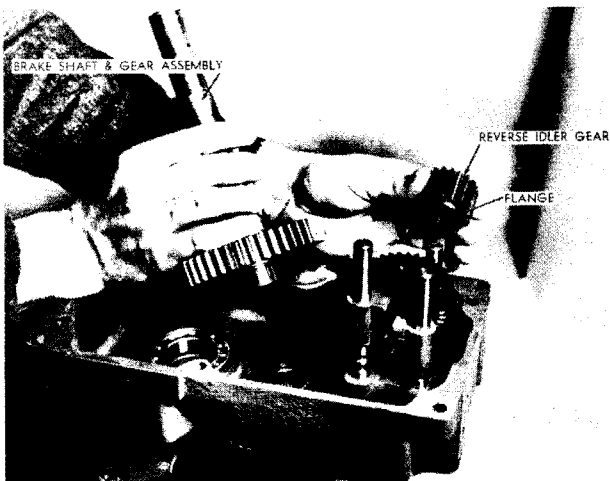

FIGURE 18
- Install the reverse idler and the brake shaft, as shown in Figure 18, making sure that the flanged end on the reverse idler goes down.